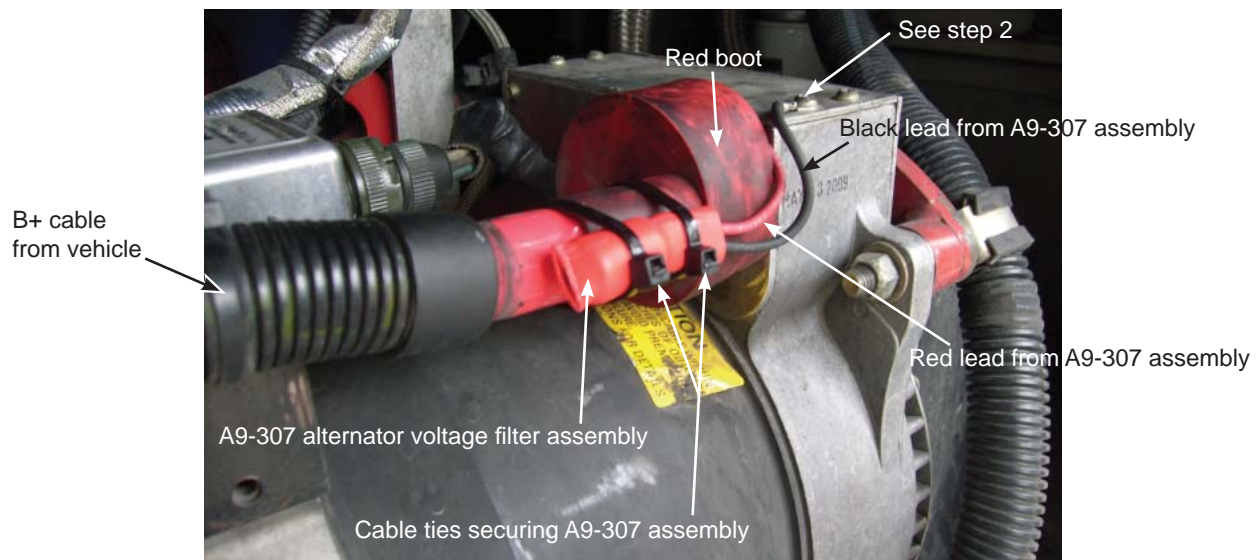

Figure 1 – C706 Alternator with A9-307 Assembly Installed
2. Remove and save one screw from top of drive end (DE) control box (see Figure 1).
5. Using cable ties, securely support the assembly to the vehicle B+ cable as shown in Figure 1.